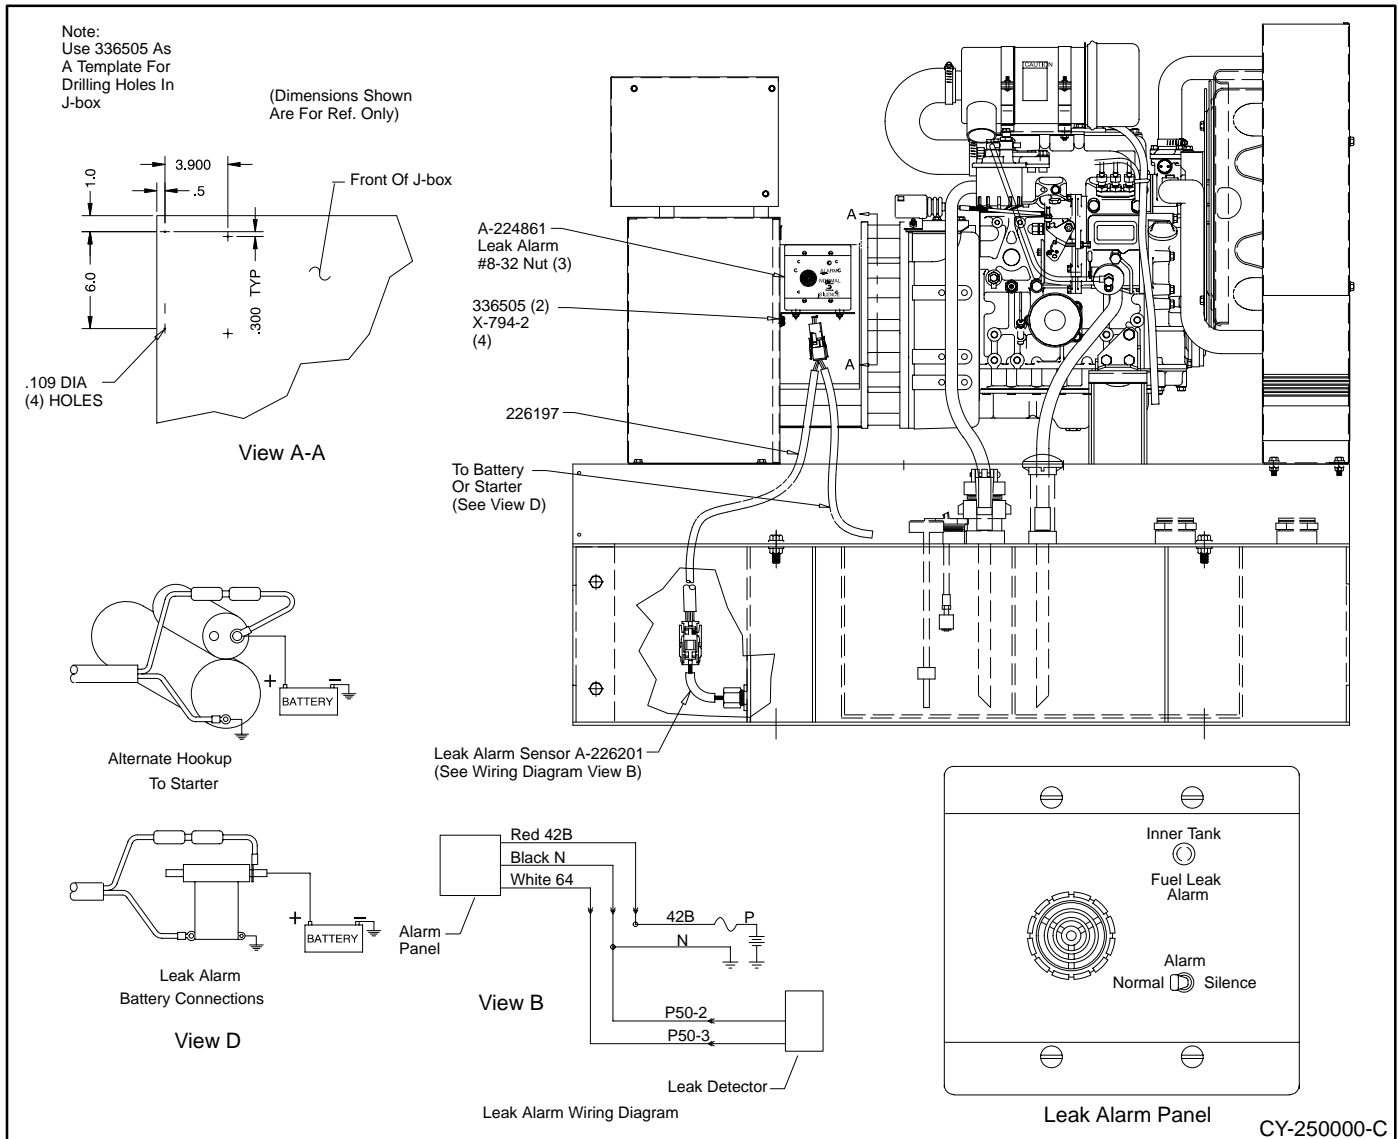

Figure 1. 6-15 kW Double-Wall Subbase Fuel Tank Leak Alarm Installation
4. Mount annunciator box assembly to junction box. See Figure 1 for mounting location.
5. Remove pipe plug from tank for leak alarm sensor. See Figure 1 for pipe plug location. Apply pipe sealant to threads of leak alarm (A-226201) and install in tank.
6. Connect leak alarm wiring harness (226206) to annunciator box assembly and leak alarm sensor. See Figure 1.
7. Connect wire harness power leads to either battery or starter. See Leak Alarm Battery Connections Figure 1.
See Figure 1 Leak Alarm Panel view.